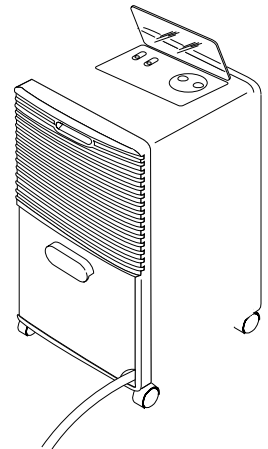

Fig. 3
- 5) Replace the canister into the appliance (Fig.3).